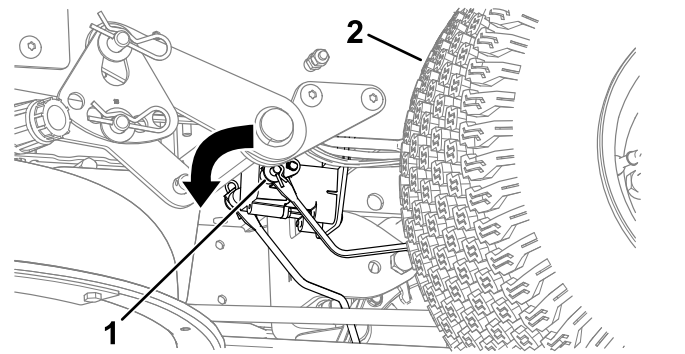

Figure 49
3. Locate the shaft on the electric brake where the brake link arms are connected (Figure 49).